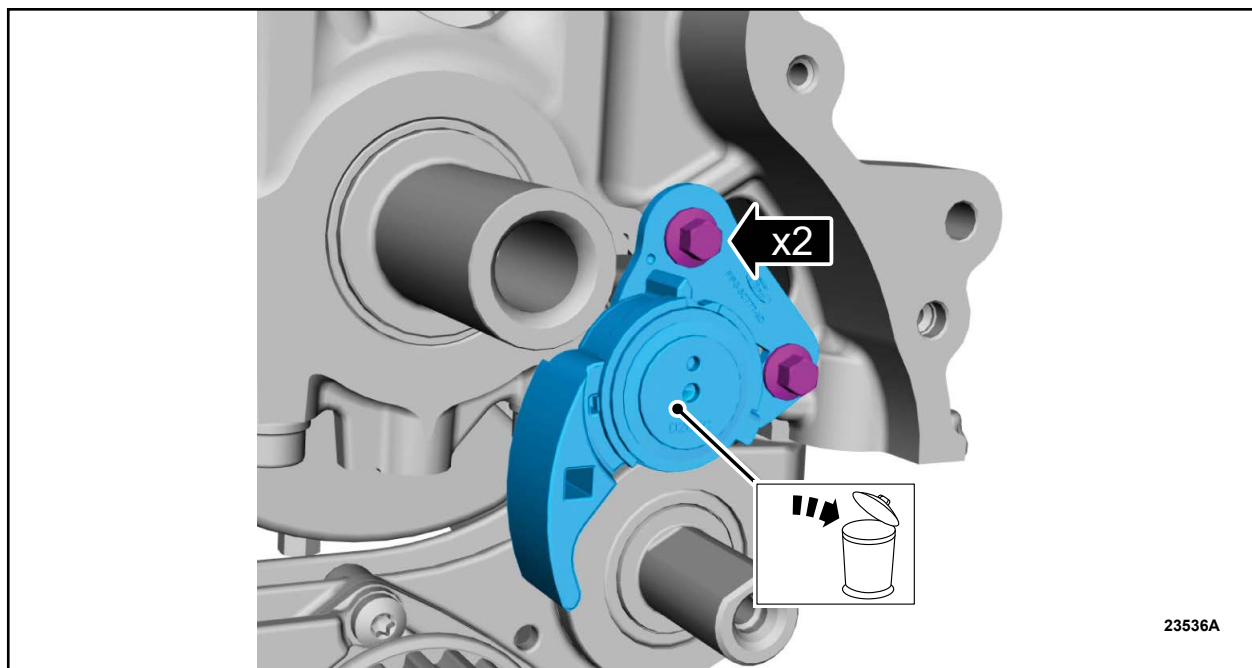

FIGURE 22
28. Remove and discard the oil pump drive belt tensioner. See Figure 22.